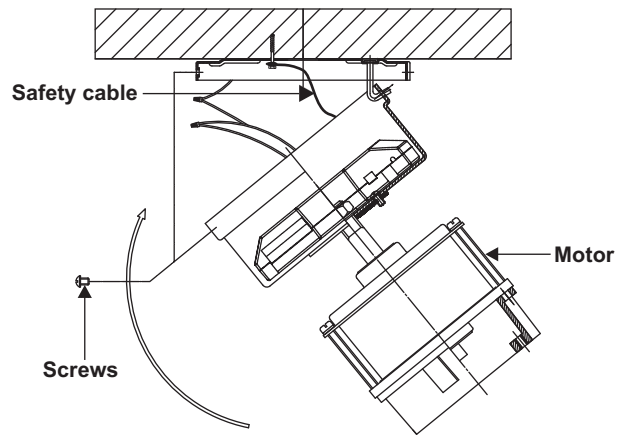

Figure 9
Step 1. Move fan motor into position over the four mounting holes and secure with the four screws provided. (Fig. 9)
Step 2. An additional safety support is provided to prevent the fan from falling. Secure the safety cable to the ceiling joist with screw and washer. (Fig. 9)